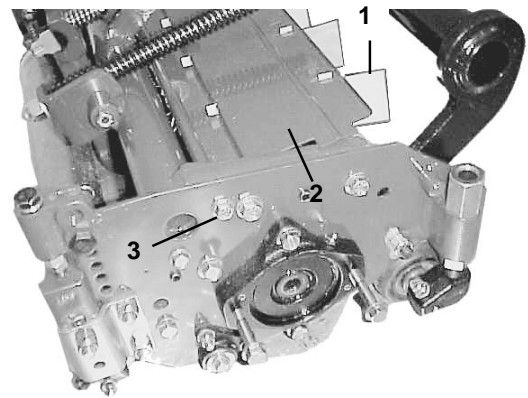

Figure 3
2. To adjust fins (Fig. 3), unhook and move the front